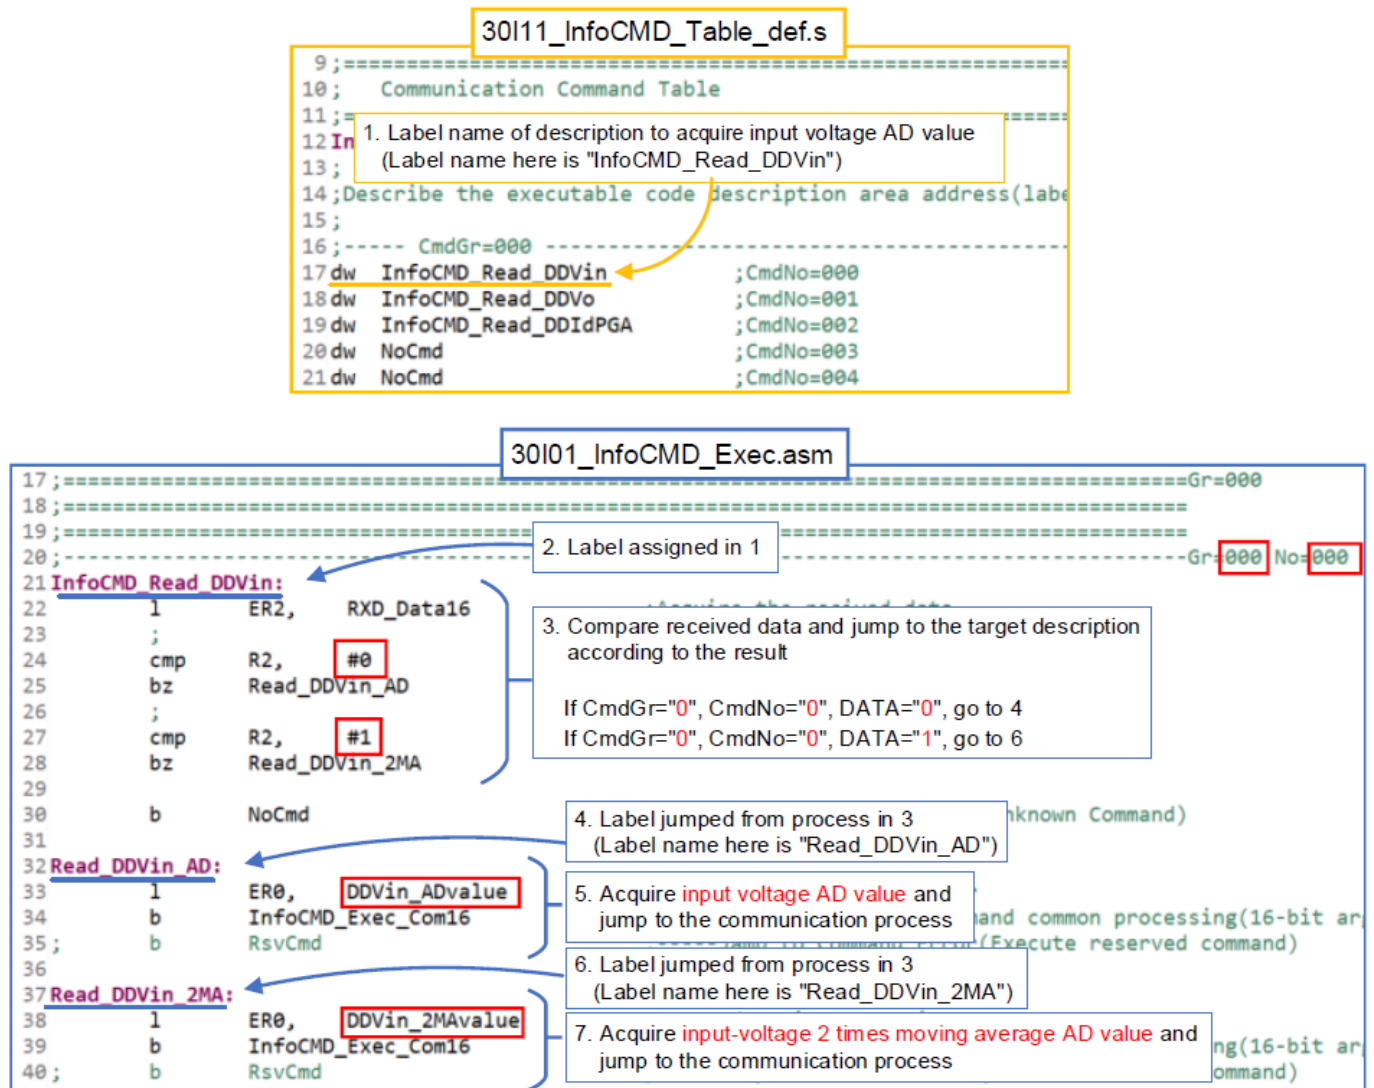

Figure 3-10. Description and operation of read command
Figure 3-10 shows the descriptions and operations of Read command. The following programs describe how to read an input voltage AD value or 2 times moving average value (when CmdGr = "0" and CmdNo = "0").
3. Describe the command processing. Refer to Figures 3-10 and 3-11 for how to describe the program.